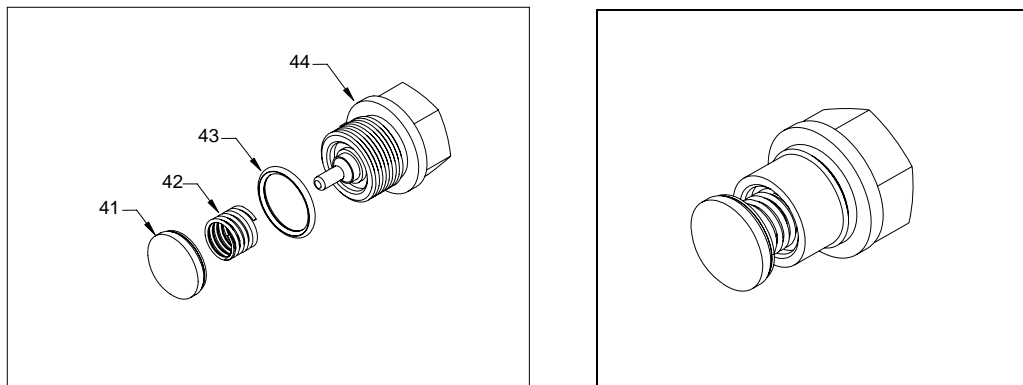

Fig. 9: Valve Assembly
Clean and inspect all valve plugs (44) prior to reassembly. If there is a problem, contact your dealer. Once all valve plugs (44) are clean and dry, install new valve plug o-ring (43) onto valve plug (44). Install the valve spring (42) onto the valve plug (44). Press the valve (41) onto the valve spring (42). Complete valve assembly shown in Fig. 9.